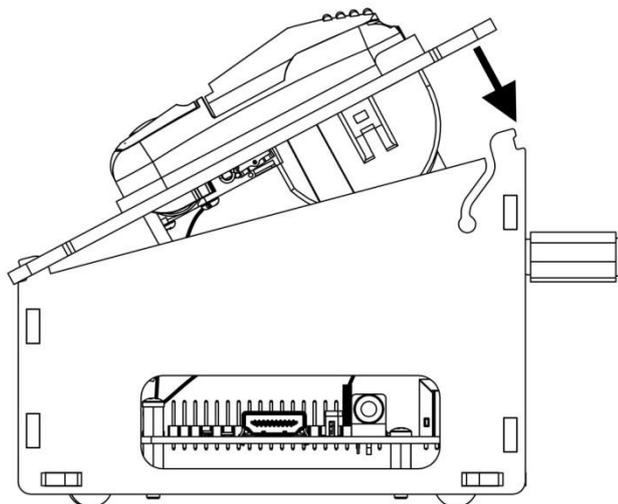

Figure 11
- 19) Pinching the left and right sides at the front in order to keep the unit together, lift the body and top plastics and place the unit on its rubber feet. Hook the top plastics over the front lugs as shown in Figure 11. Do not worry about the unconnected cables at this time!
- 20) Checking that the cables have not become dislodged from their respective notches, lower the lid down to engage with the rear snap hooks before pressing the top plastics firmly into place, as shown in Figure 11.